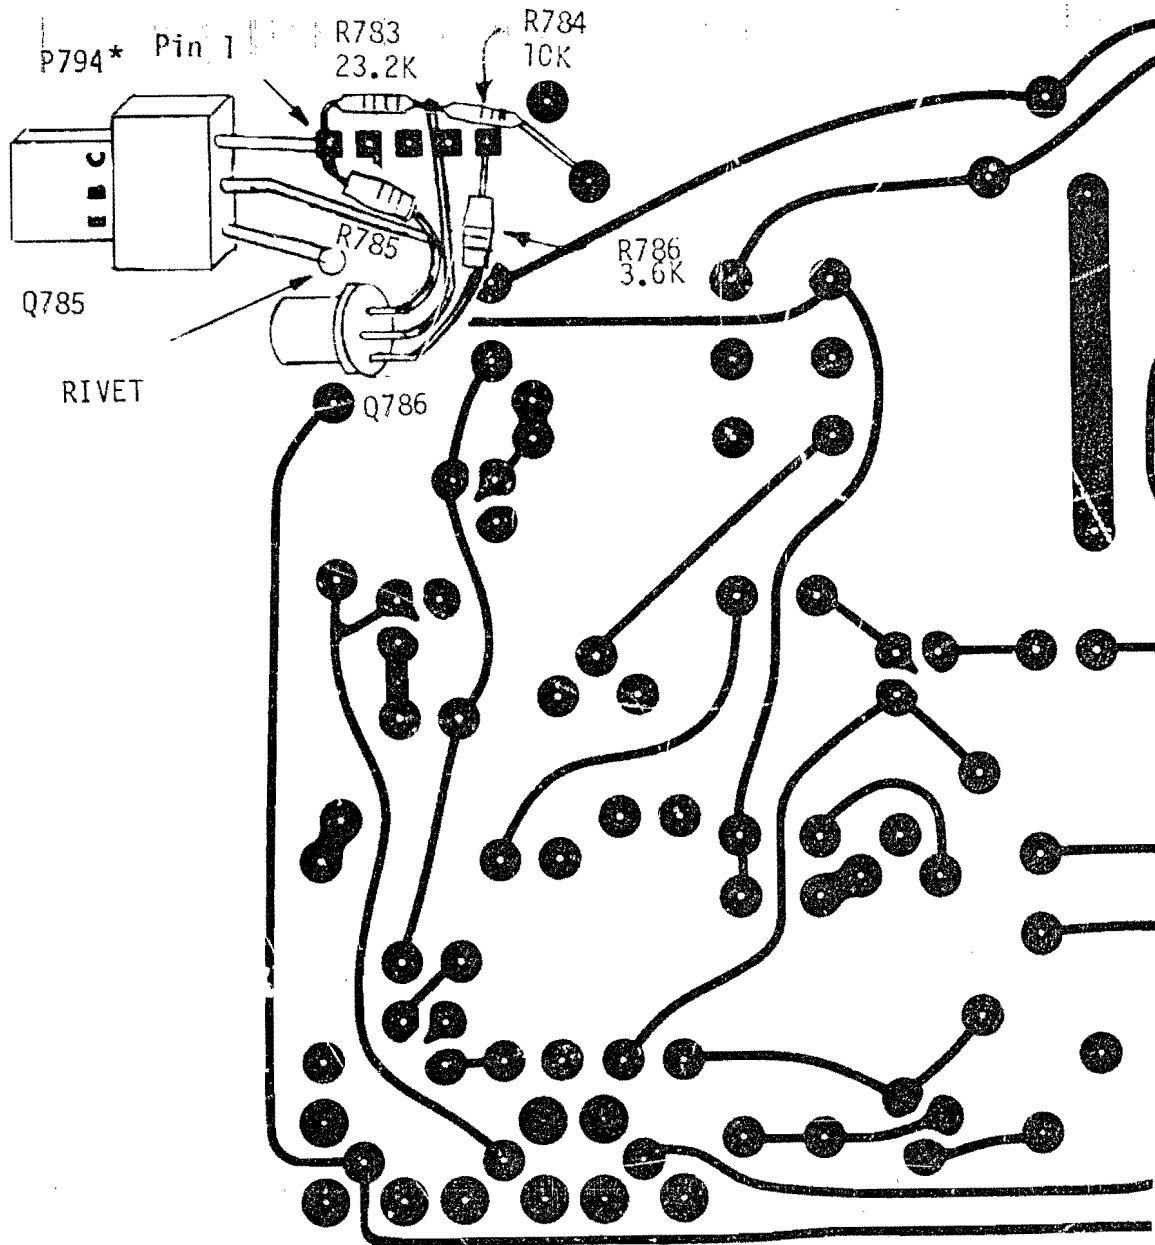

FIGURE 2
FOR PART I SEE FIG. 2 ON PAGE 7.
- ( ) 6. Install R783 - R784, a 23.2k $\Omega$  0.125W resistor and a 10k $\Omega$  0.125W resistor, connected in series between Pin 1 of P794 and the circuit board board pad as shown in Fig. 2.